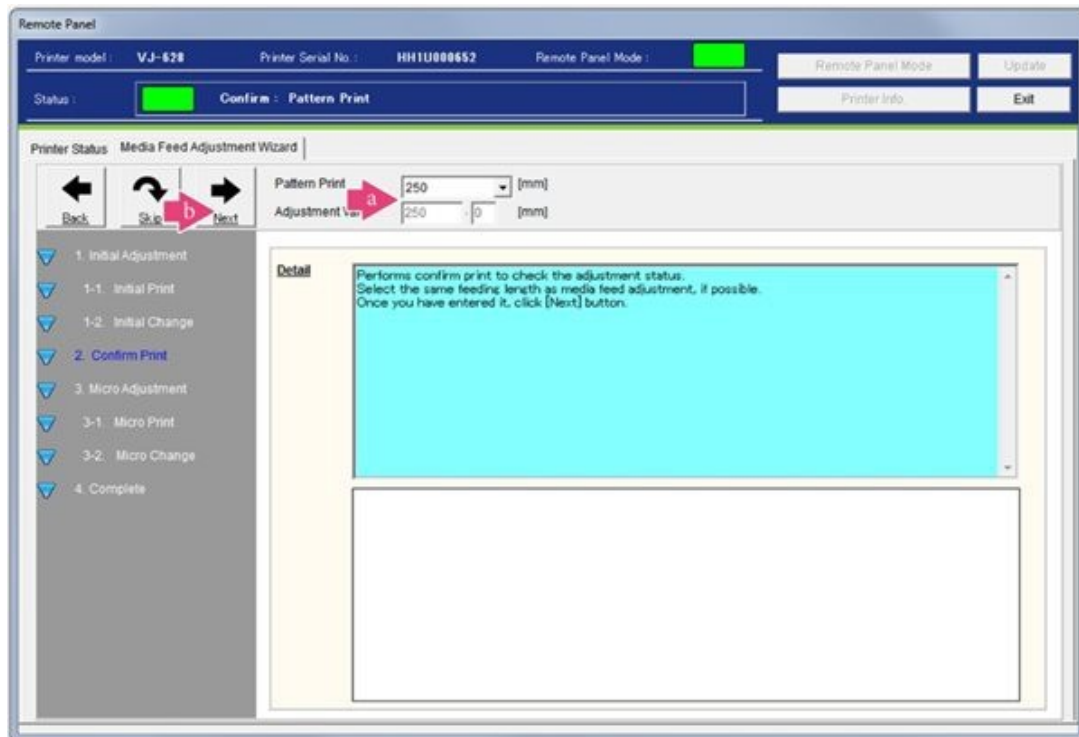

Figure 97
84. You will now confirm the print to check the adjustment status. Select the same feeding length as the media feed adjustment (a), and select **Next** (b). See Figure 97.